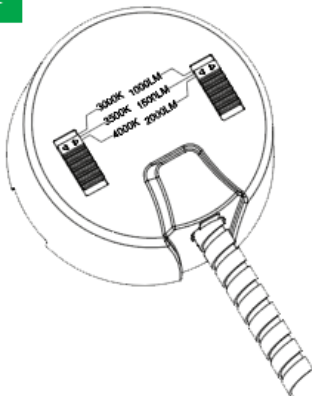

Fig. 5
6. Install the down light by lifting both retention tabs upward. (Fig. 5)